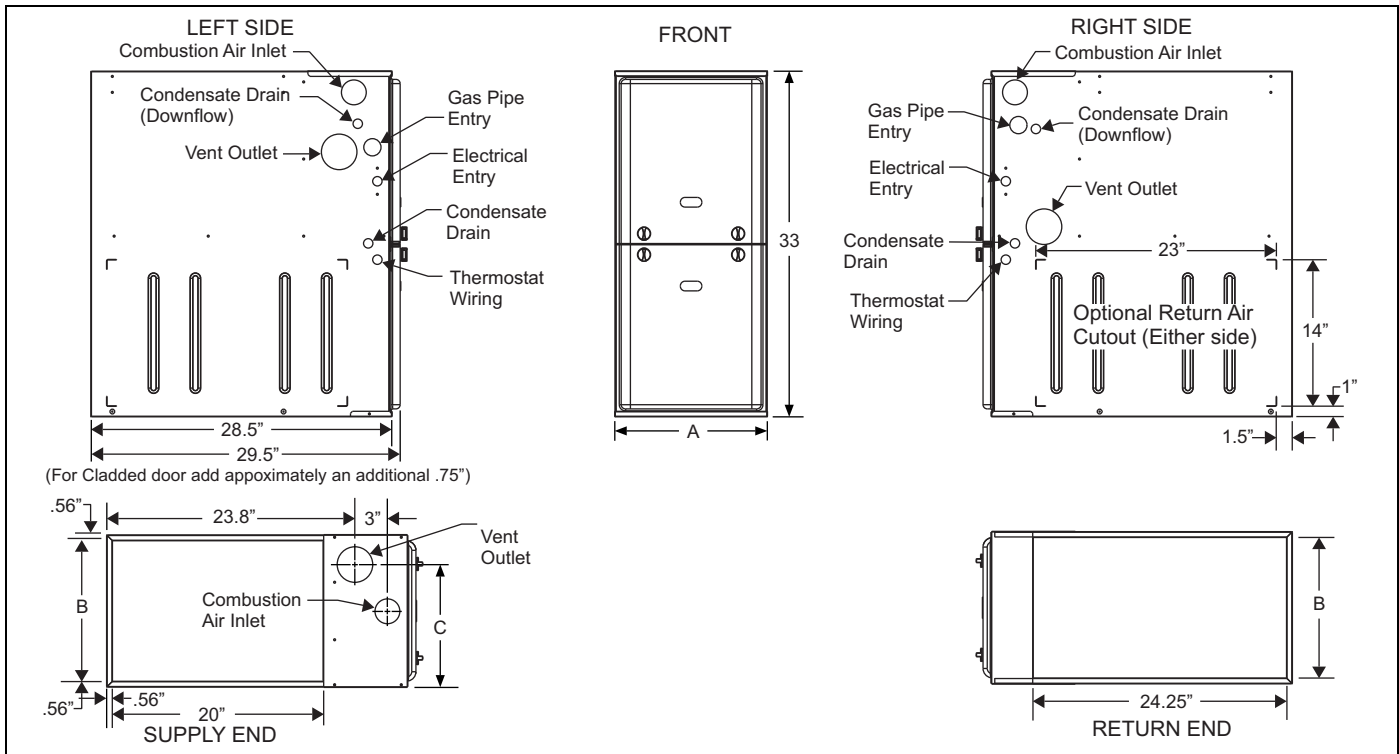

FIGURE 12: Dimensions
*Some accessories such as electronic air cleaners and pleated media may require a larger side opening. Follow the instructions supplied with that accessory for side opening requirements. **Do not** cut the opening larger than the dimensions shown in Figures 12.*
Gas piping may be connected from either side of the furnace using any of the gas pipe entry knockouts on both sides of the furnace. Refer to Figures 12.